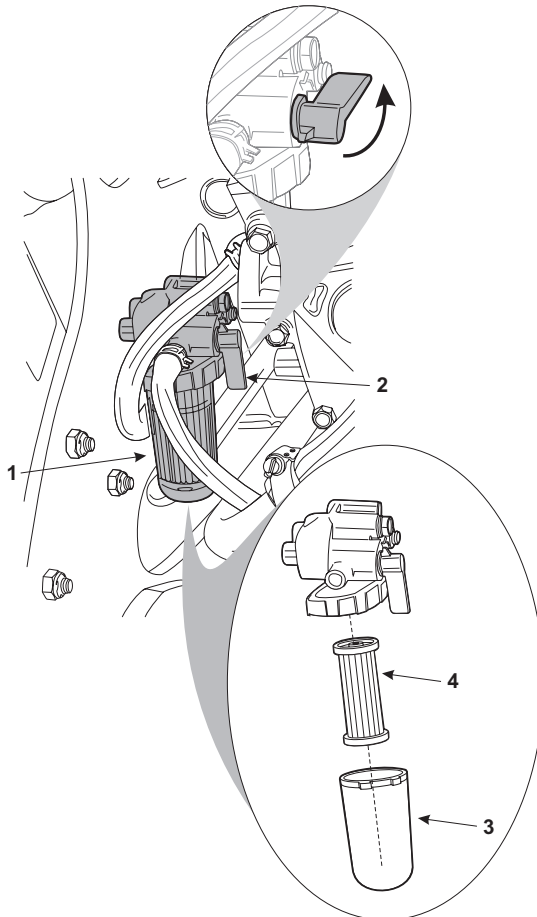

Figure 4-21 Engine Fuel Filter/Water Separator
- a. Rotate the fuel shut off valve (Item 2, **Figure 4-21**) to stop the fuel flow from the tank.
- c. Rotate the filter bowl (Item 3, **Figure 4-21**) and remove it from the filter assembly.
- e. Remove the paper filter (Item 4, **Figure 4-21**) and dispose of according to State and Local regulations.